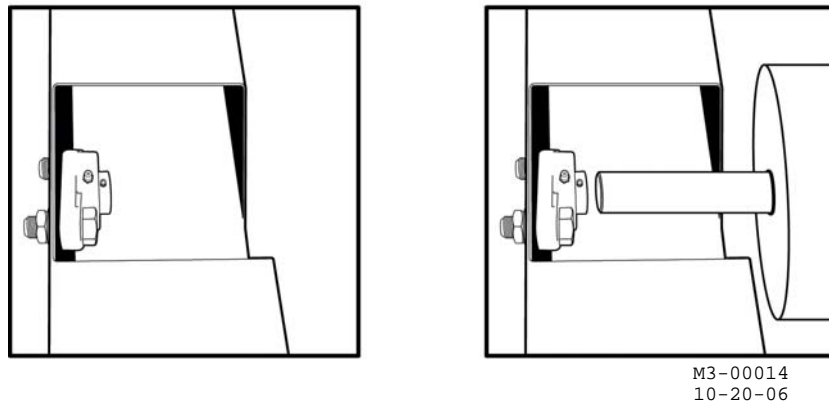

Figure 2-3: Attach Guide Roller
4. Attach the larger of the two Guide Rollers for All Weather doors and tighten set screws on both sides. See Figure 2-3.